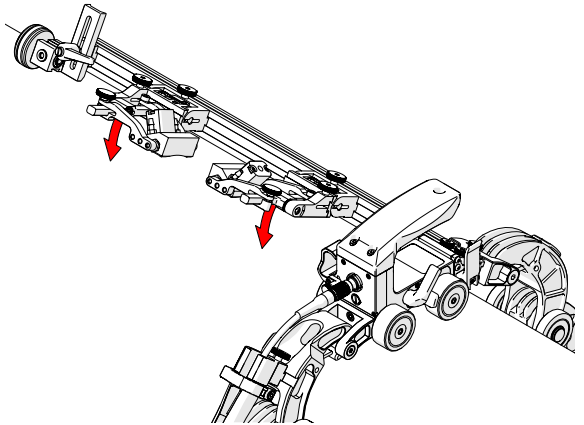

Fig. 164 - Lower probe holders
12. Lower the probe holders (Fig. 164) to the scan surface (see *Probe Holder Adjustment* on page 31).